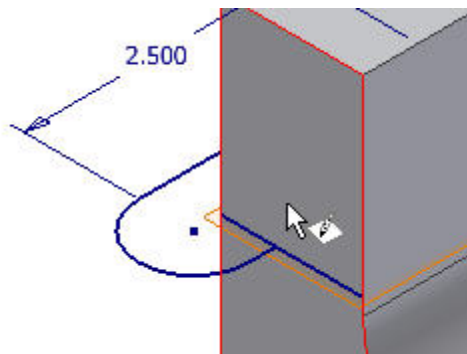

Figure 25
20. Click **Return** to switch to the Part Feature mode. Switch to the Isometric view and select the left surface as the new sketch plane as shown in Figure 25.